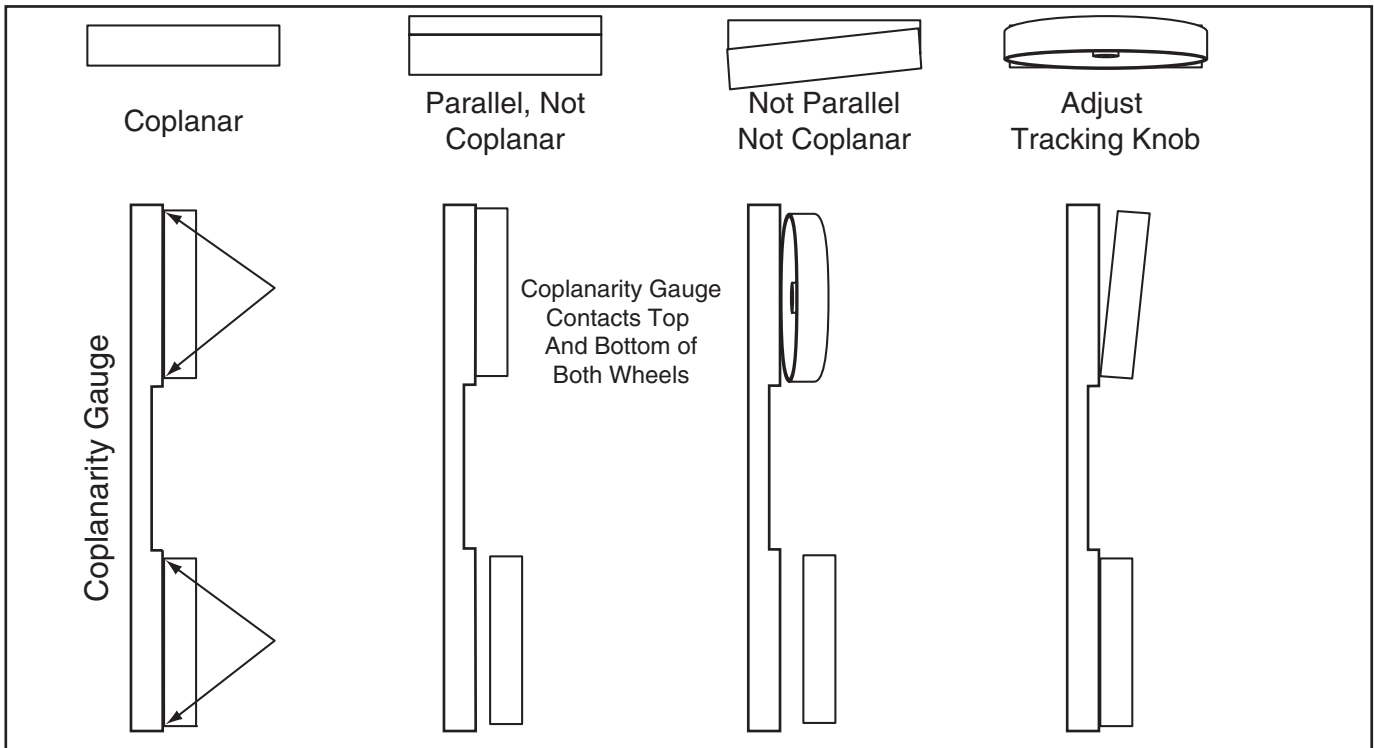

Figure 55. Coplanarity diagram.
8. **Figure 55** shows the positions of the wheels when coplanar. When your wheels are coplanar, readjust the guide blocks and rear support bearings, and replace the wheel covers.